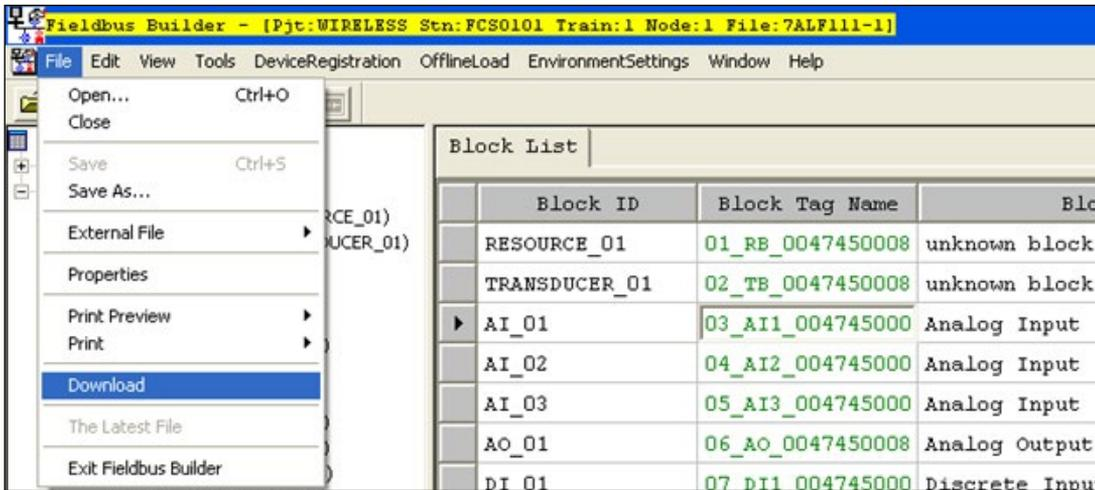

Figure 81 - Download Function
1. Click **File->Download** menu in the *Fieldbus Builder* to download the modified parameters to the device (Figure 81).